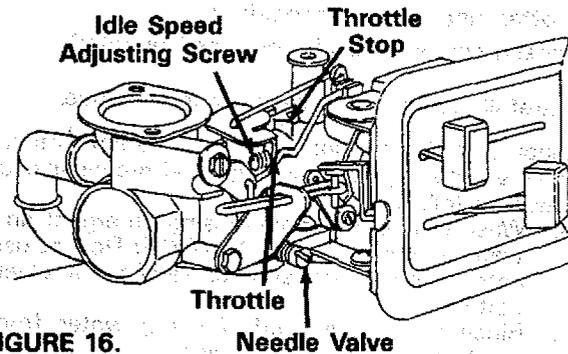

FIGURE 16. Needle Valve
1. Close needle valve (See figure 16) clockwise (↻) finger tight only. Forcing may cause damage. Then open 1-1/2 turns counterclockwise (↺).